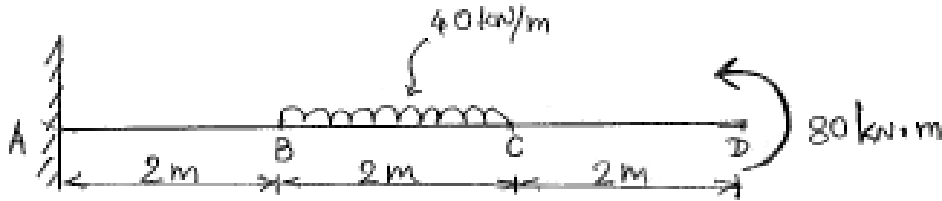

Figure No. 4
- a) Draw SFD and BMD with calculations for the beam shown in figure No. 4.